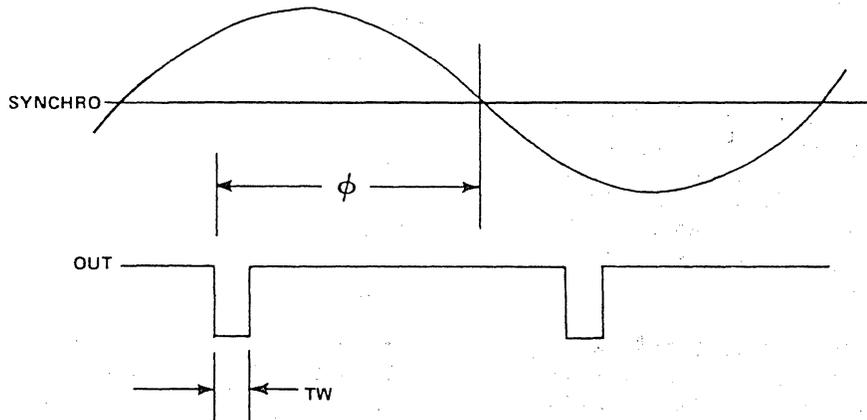

FIGURE 2 - OUTPUT PHASE ANGLE  $\phi$
**FREQUENCY CHARACTERISTICS (See Fig. 2 & 3)**